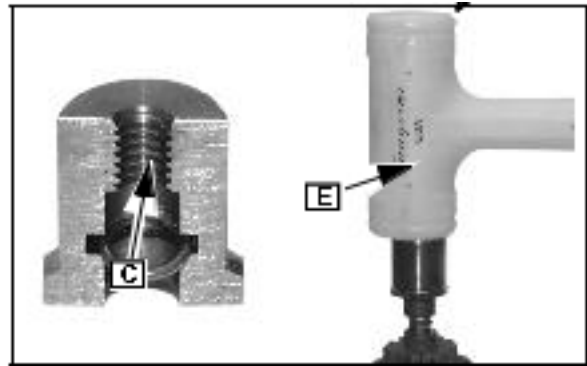

Fig. 41
Place new retainer ring (C) inside two halves of tool #19467 (D), and slide tool sleeve down over two halves, Fig. 41.